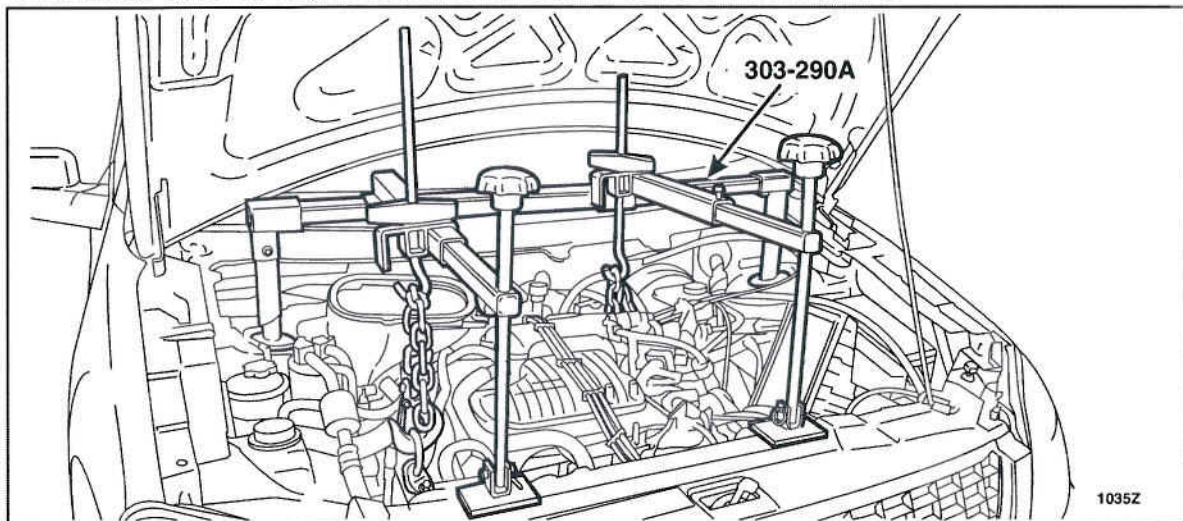

FIGURE 8
14. Install the Three Bar Engine Support Kit special tool 303-290A. See Figure 8.
15. Connect the chain hooks to the previously installed Engine Lifting Brackets. See Figure 8.